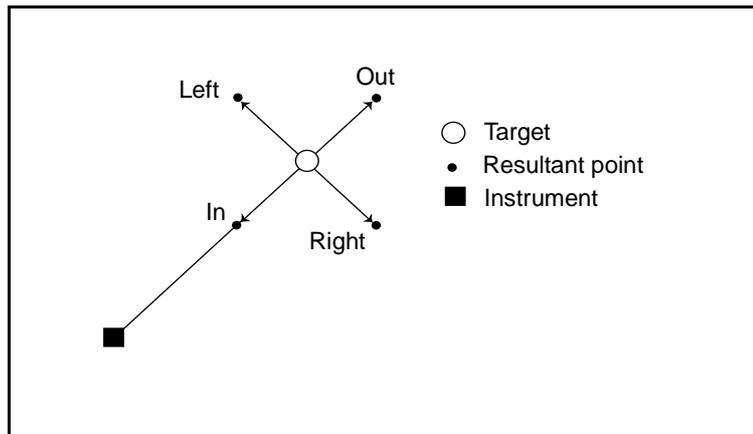

Figure 20.1 Direction options
6. In the *Direction* field, enter the direction from the target (prism) point to the object to be measured. Figure 20.1 shows how the directions are defined.